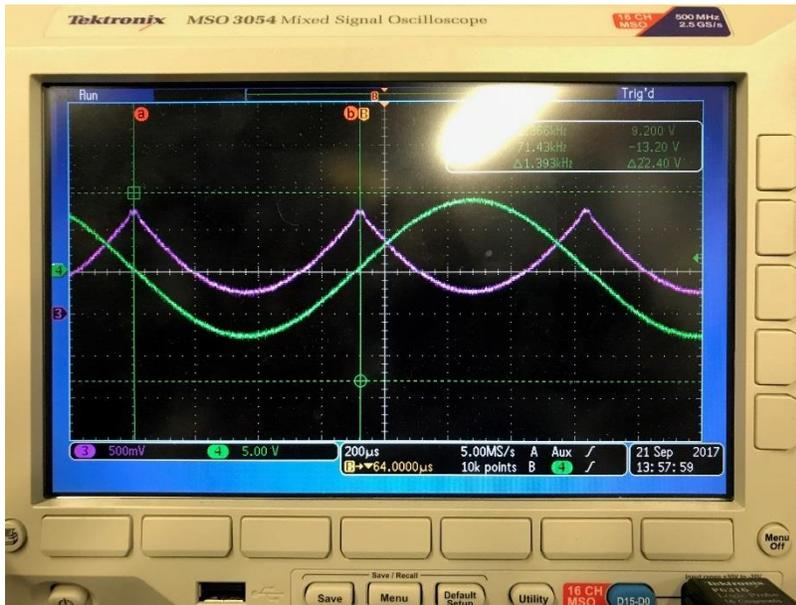

Figure X.2 Green trace is the phase drive. The magenta trace is the phase response.
2. Monitoring the phase difference between DDS channels 1 and 2 we will see something like Figure X.2.